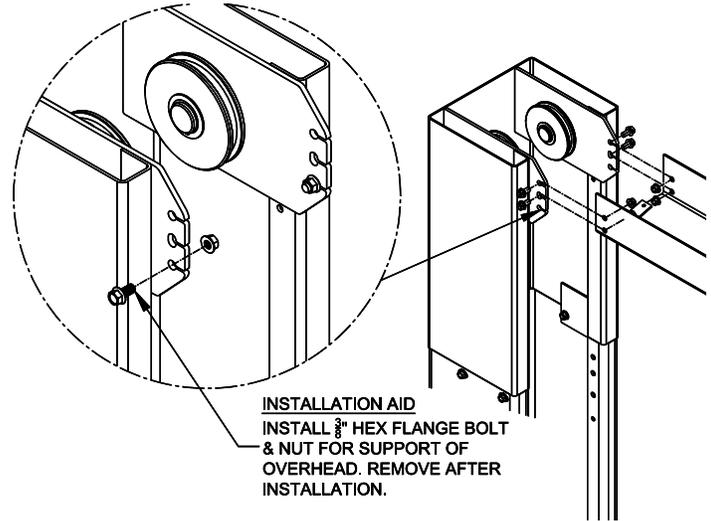

Fig. 4 – Overhead Assembly
- 12) Before raising overhead into position install 4 each (2 per column) hex flange bolts and nuts in bottom hole of column extension (see Fig. 4 Installation Aid) for temporary support of overhead. Lift overhead assembly up into position and install with 8 each (4 per column) 3/8"-16 x 3/4" lg. hex flange bolts and hex flange nuts per side as shown in Fig. 4.